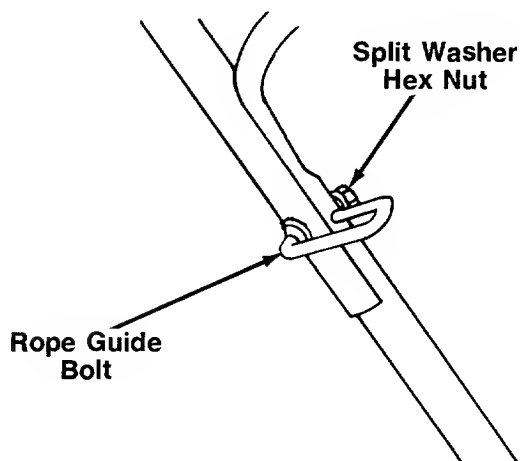

FIGURE 5.
3. Insert the rope guide bolt through the right hand side of upper and lower handle from the outside in. See figure 5. Secure with split washer and hex nut, finger tight only at this time.